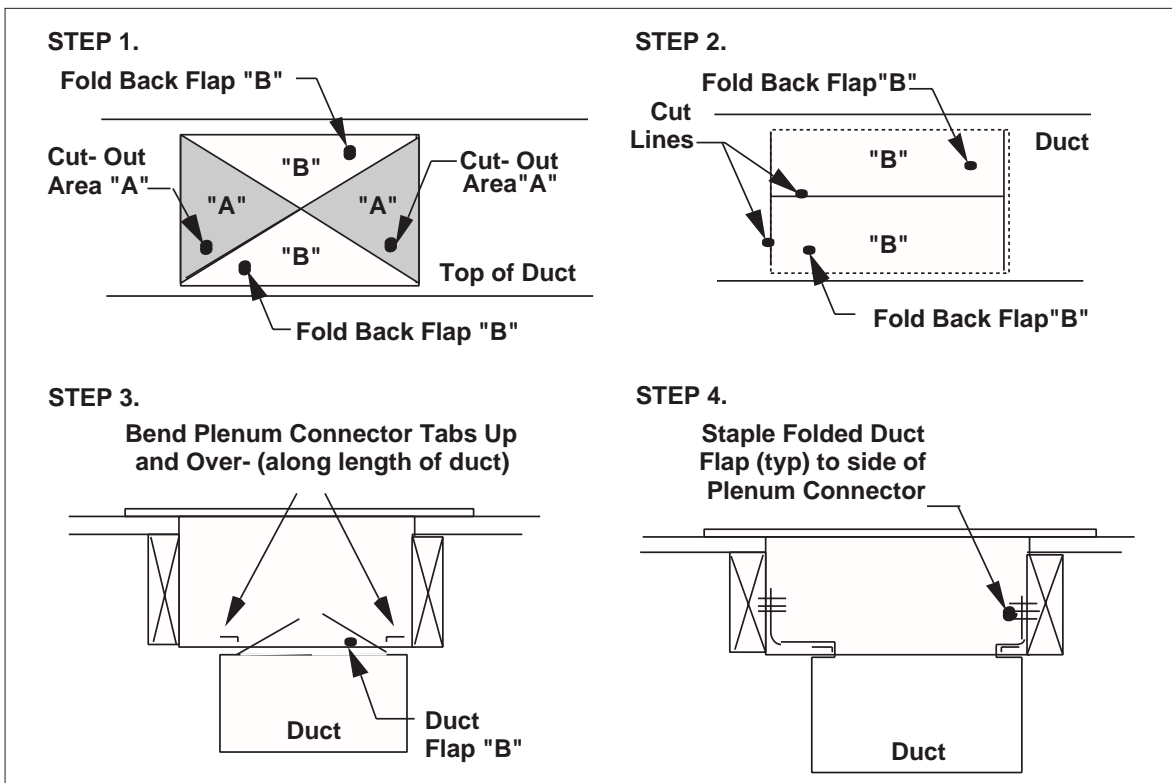

Figure 11. Alternate Plenum Connector Installation C
1. Score and cut top of metal duct as indicated in Figure 11, Step 1 or Step 2. If using Step 1, also cut out metal from the shaded area "A".
2. Fold the duct flap "B" up (see Figure 11, Step 3).
4. At area "B", bend the plenum tabs up and back over, around the plenum connector (see Figure 11, step 3).
5. Fold/form the duct flap against the side of the plenum connector and attach as shown (see Figure 11, Step 4). Use at least three staples on each duct flap OR... if a 2X block/joist is not provided, use at least two sheet metal fasteners on each duct flap.